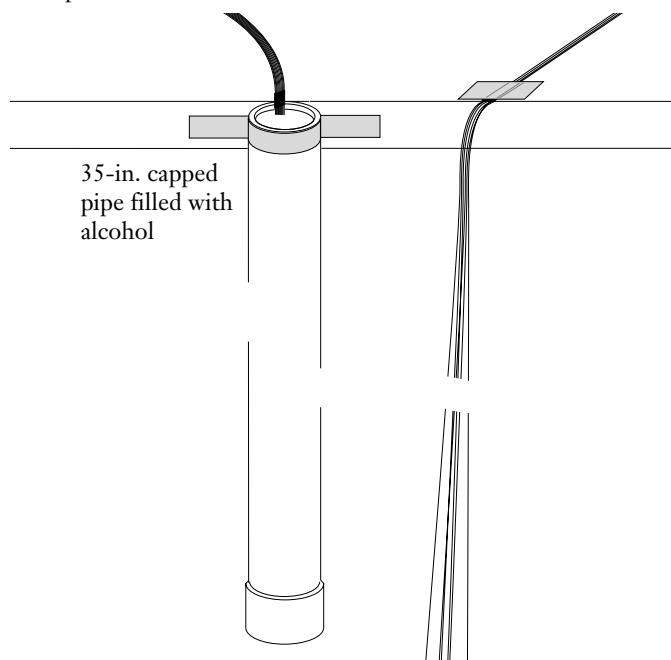

Figure 14
**6.18** Dip the separated fibers from the first ribbon into the alcohol-filled tube (see Figure 14). *Do not submerge the heat-shrink covered area in the alcohol.*
**6.20** Insert the fibers from the next ribbon into the alcohol (Figure 14). During this group of fibers' 5-minute soak, proceed to step 6.21 to work with the first set of fibers.